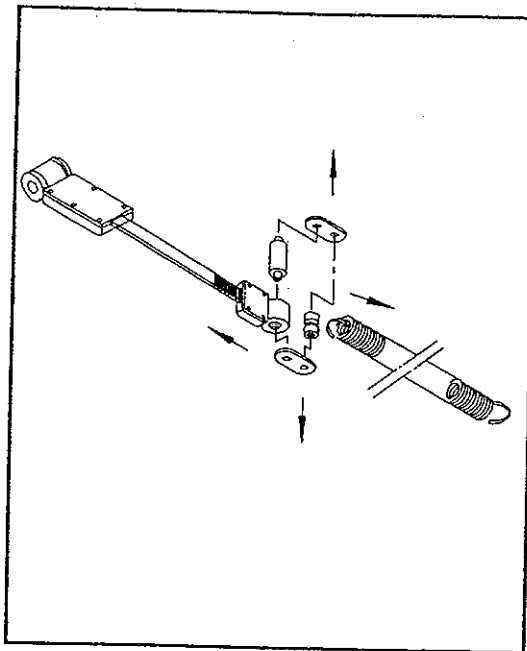

Fig. 12
11. Disassemble following the steps in Fig. 12.